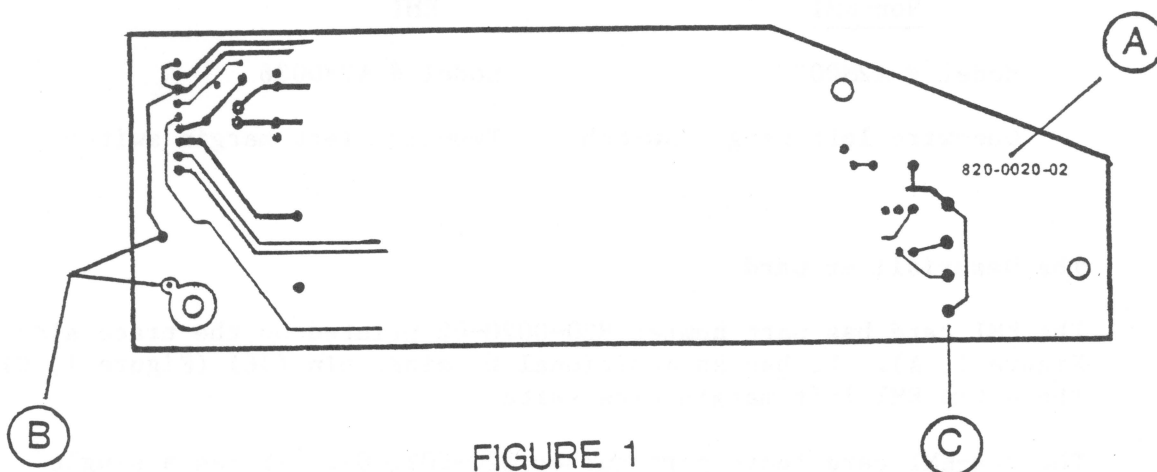

FIGURE 1
5. Install the deserializer card in the printer as usual. Note that the left margin switch wire from the chassis should connect to post J5 on the card and that J6 (Figure 1, C) will not be used.